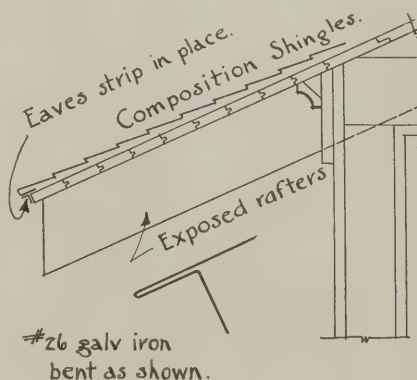

Fig. 10—Composition shingle protector
J. E. N. submits the sketch, Fig. 10, with the following description, noting also that it is for "supporting and protecting the projecting edges of the shingles."